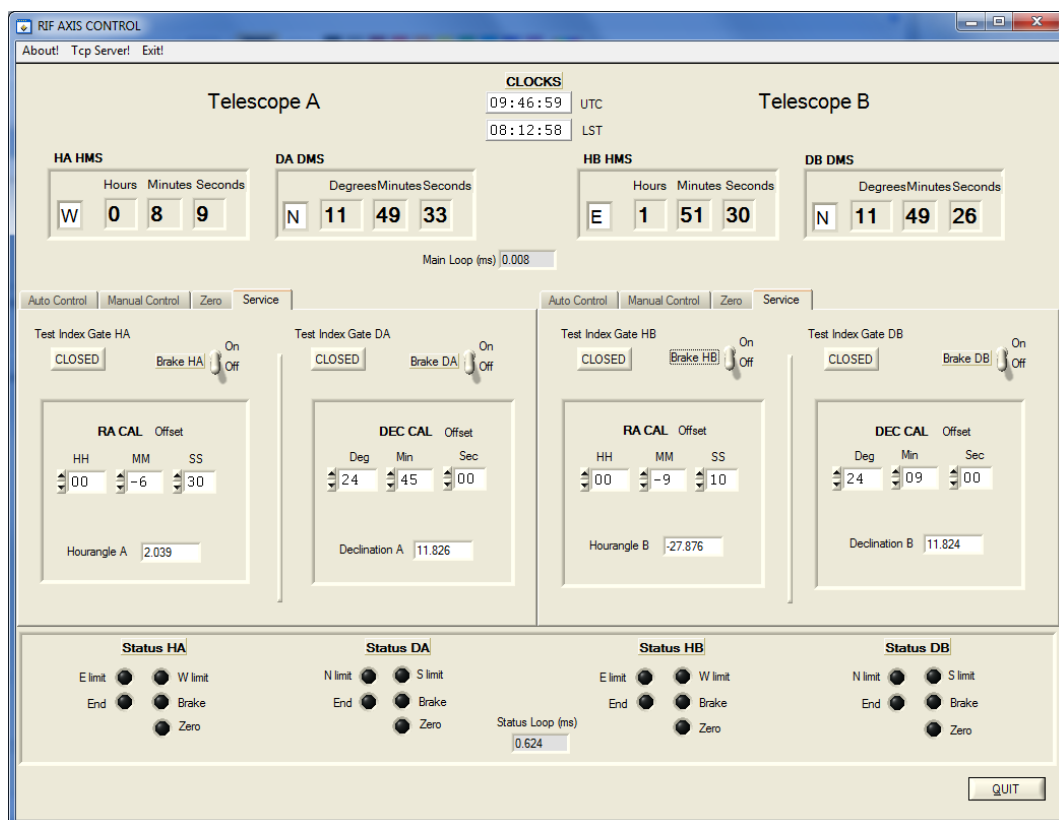

Figure 9: The Axis4 “Service” tab.
- (b) In the “Service” tab (shown in Figure 9), the values for “RA CAL. Offset” and “DEC CAL. Offset” are set to the values given in Table 2 and that the minus signs (if any) are in the correct positions.
- (b) In the “Service” tab (shown in Figure 9), the values for “RA CAL. Offset” and “DEC CAL. Offset” are set to the values given in Table 2.